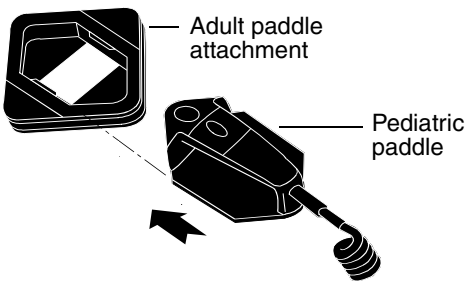

Figure 5-11 Replacing a Pediatric Paddle
- Slide the paddle handle forward until you hear a click. (Refer to Figure 5-11.)